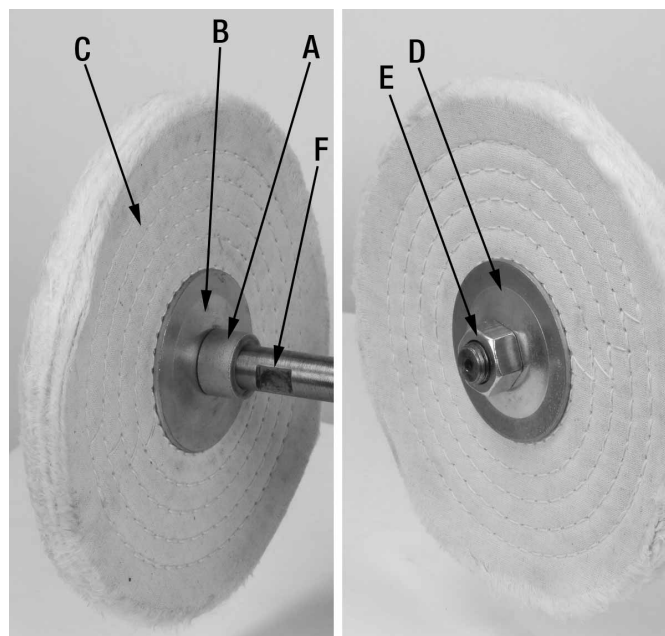

FIGURE 5
1. Install the arbor bushing (A) Fig.5 by sliding it onto one of arbor shafts.
2. Slide the inner flange washer (B) Fig.5 onto the shaft. Make sure the 'cup' side is facing towards the threaded end of the shaft.
3. Slide the buffing wheel (C) onto the shaft and butt it against the inner flange washer.
4. Slide the outer flange washer (D) Fig.5 onto the shaft and butt it against the buffing wheel. The 'cup' side should be facing towards the buffing wheel.
5. Thread the arbor nut (E) Fig.5 onto the shaft to secure the buffing wheel.